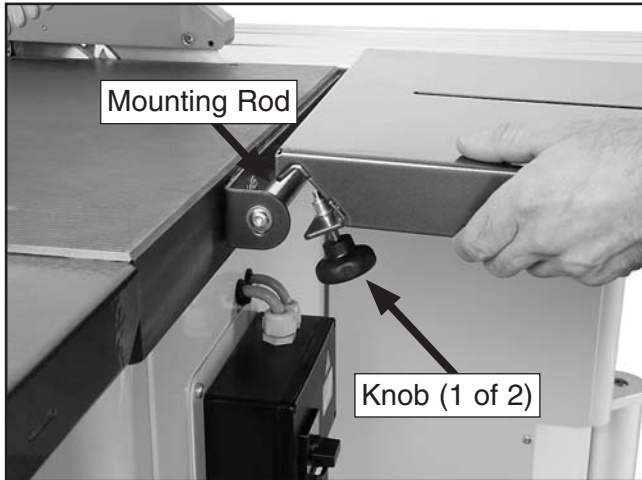

Figure 17. Small extension table.
- Attach the small extension table by loosening the two knobs and placing the end of the table over the table mounting rod (**Figure 17**).